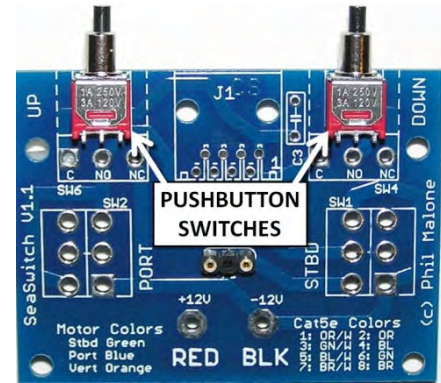

Figure 3.3-3: Pushbutton Switches Installed in the "SW3" and "SW5" Locations
9. Place the pins of the two **pushbutton switches** through the pads in the PCB at the locations labeled "SW3" and "SW5," as shown in Figure 3.3-3, after making sure that their pins are all straight (perpendicular to the switch body). [You may have larger switches than shown, which fit instead into the other set of three holes at the "SW4" and "SW6" locations.] While holding the switches in place with a piece of electrical tape, flip the PCB over and place it on a tabletop. Press down on the PCB to hold the switches flat against the board, and solder all connections on each switch.